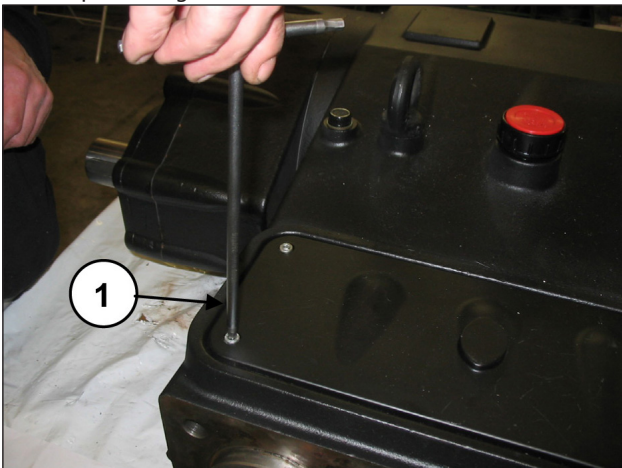

Fig. 152
Remove the upper inspection cover, unscrewing the 4 fixing screws (pos. ①, Fig. 152).